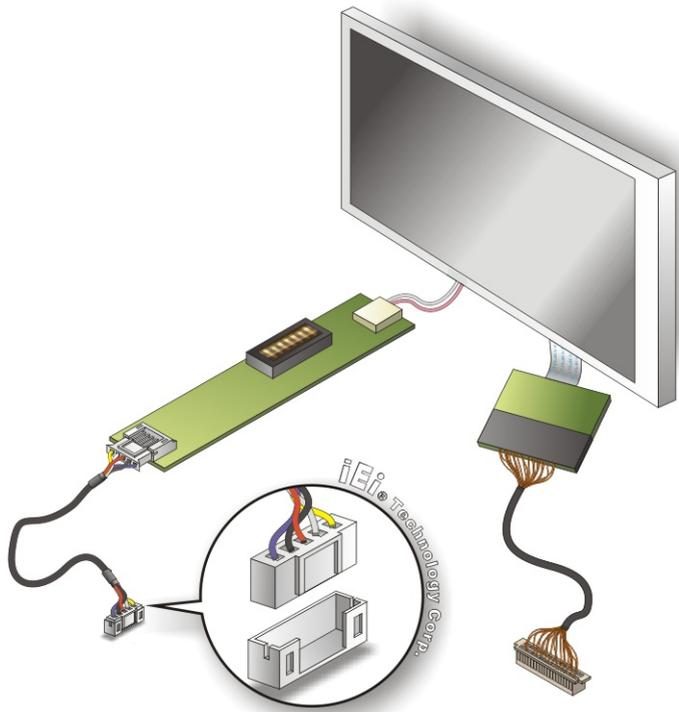

Figure 5-13: Backlight Inverter Connection
- Step 4:** **Connect backlight connector.** Connect the backlight connector to the driver TFT/LVDS LCD PCB as shown in **Figure 5-13**. When inserting the cable connector, make sure the pins are properly aligned.